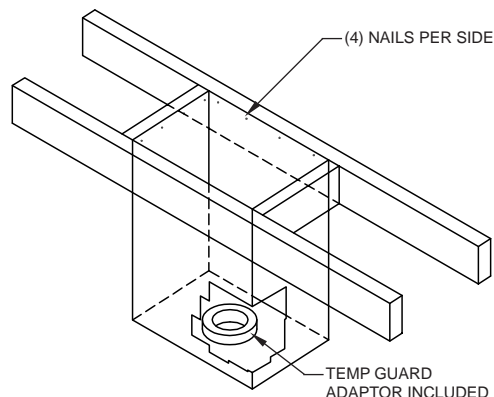

FIG. 9
2. Using framing lumber equal to ceiling joist size, frame opening as shown in **FIG. 9**. Framing that is perpendicular to the roof joists must also be vertically mounted so that support can be installed vertically.